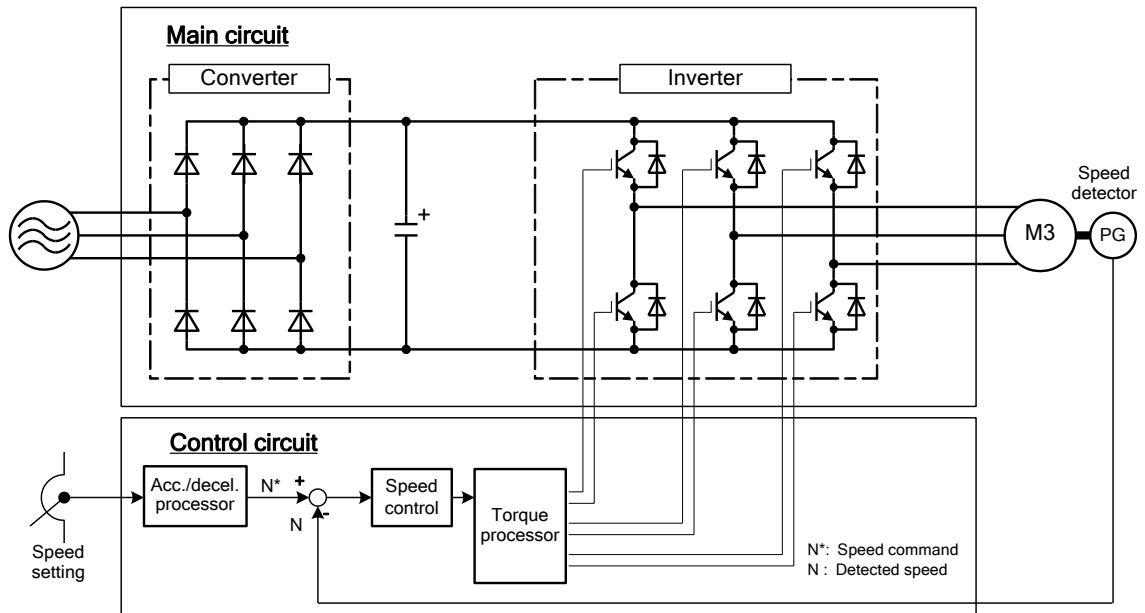

Figure 1.3.5 Closed-loop Speed Control: Basic Architecture
Figure 1.3.5 illustrates the basic architecture of the closed-loop speed control system. Speed information from a speed detection sensor such as a pulse generator (PG) is fed back to the system and compared to the speed command, and the inverter's output frequency is controlled so that the speed command and the detected speed value match.